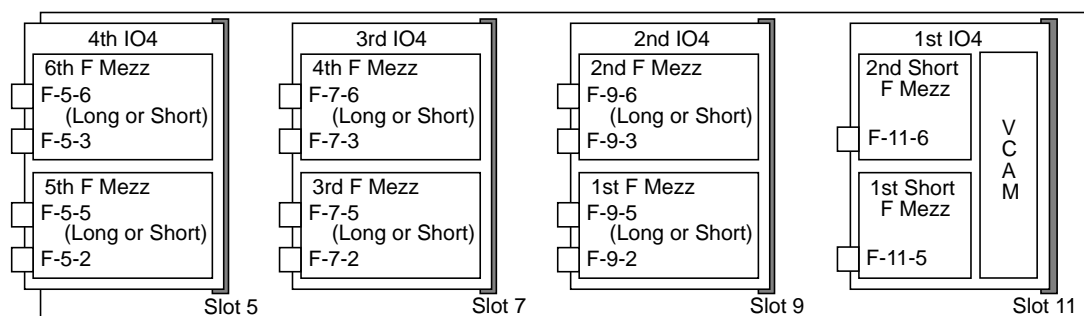

Figure 3-58 I/O Adapter Labelling
6. Install one 512 power board and five 505 Power boards as shown in Figure 3-58.
6. Install one 512 power board and three 505 power boards (refer to Figure 3-58).